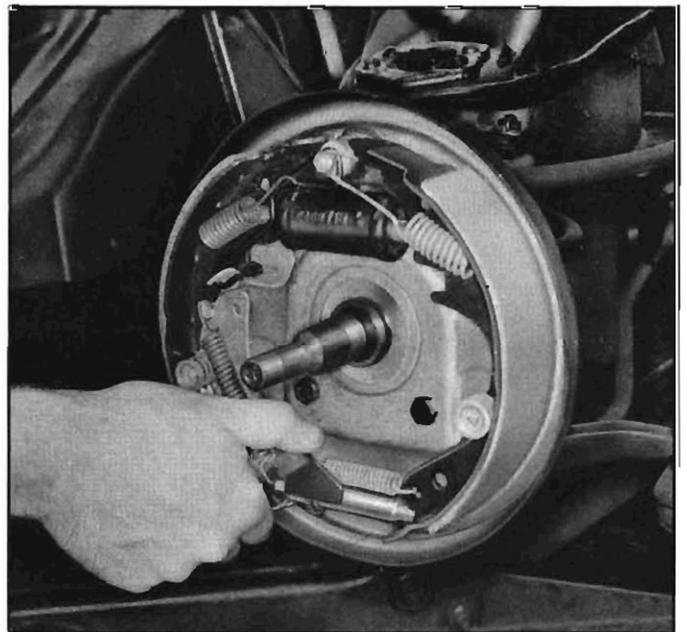

Fig. 5-11—Checking Operation of the Actuating Lever
15. After completing installation, make certain the actuator lever functions easily by hand operating the self-adjusting feature (fig. 5-11).